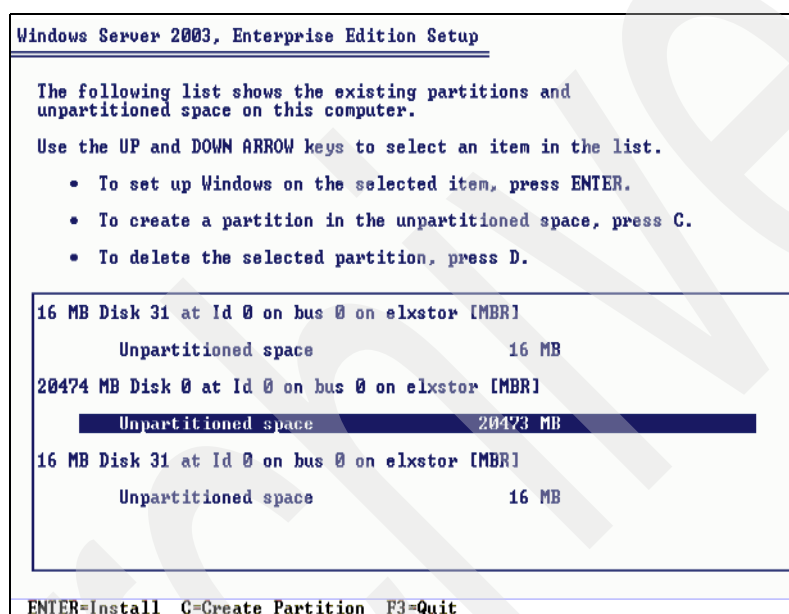

Figure 24-28 Create Partition
4. The installation proceeds as usual. When you have to choose the disk where you want to install Windows (Figure 24-28), the LUN=0 logical drive and an Access LUN can display. You can distinguish the Access LUN because it has a 16 MB size only. Select the logical drive you created for the installation/boot, create a partition on it, and continue installing Windows. The rest of the setup will be like a normal installation. When complete, Windows will boot from the DS3400 logical drive.